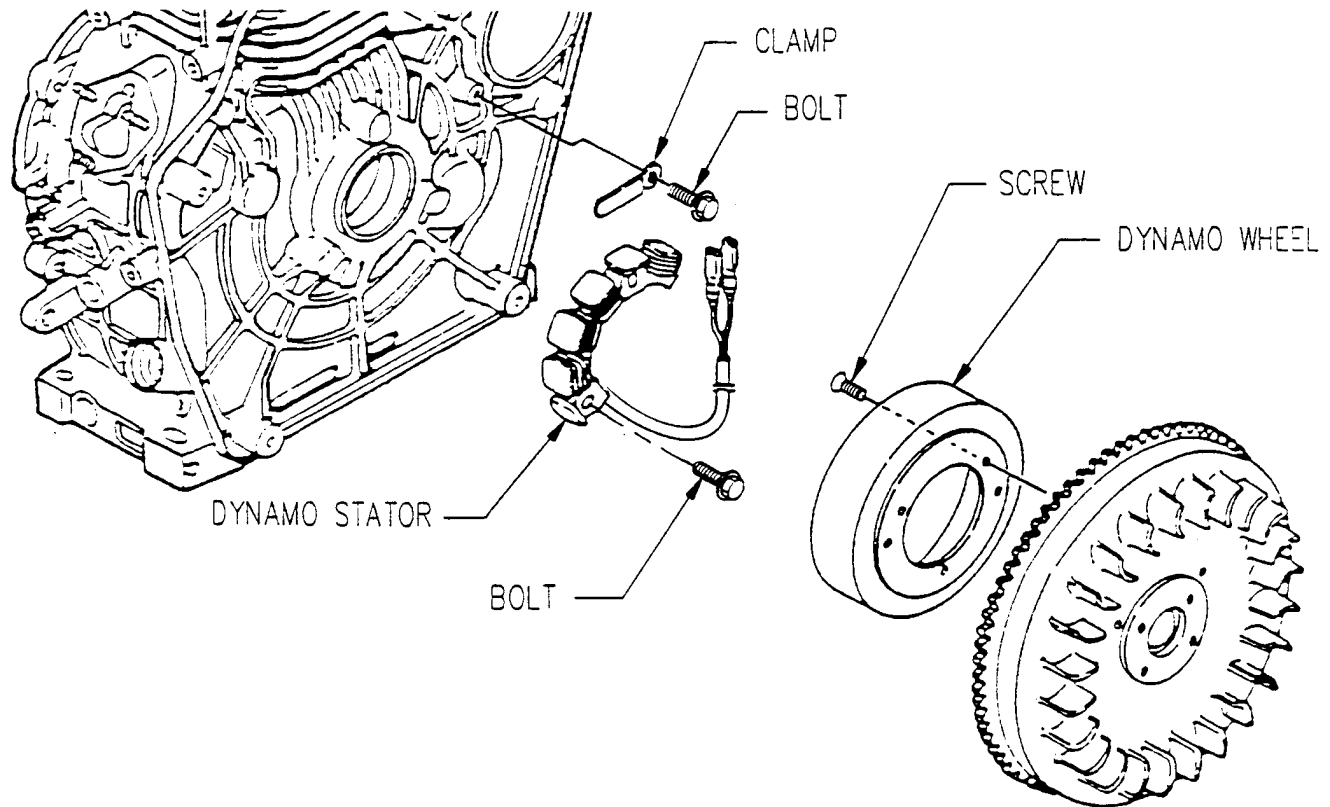

Figure 5-35. Dynamo
- (1) Shut down generator set.
- (2) Remove cooling fan cover, refer to paragraph 4.53.b.
- (3) Remove flywheel, refer to paragraph 5.21.a.
- (4) Tag and disconnect electrical leads for dynamo stator (Figure 5-35) from engine harness.
- (5) Remove bolt and clamp securing wiring to cylinder block.
- (6) Remove bolts and dynamo stator from cylinder block.
- (7) If necessary, remove screws and dynamo wheel from flywheel.
- (1) If removed, install dynamo wheel (Figure 5-35) on flywheel with screws.